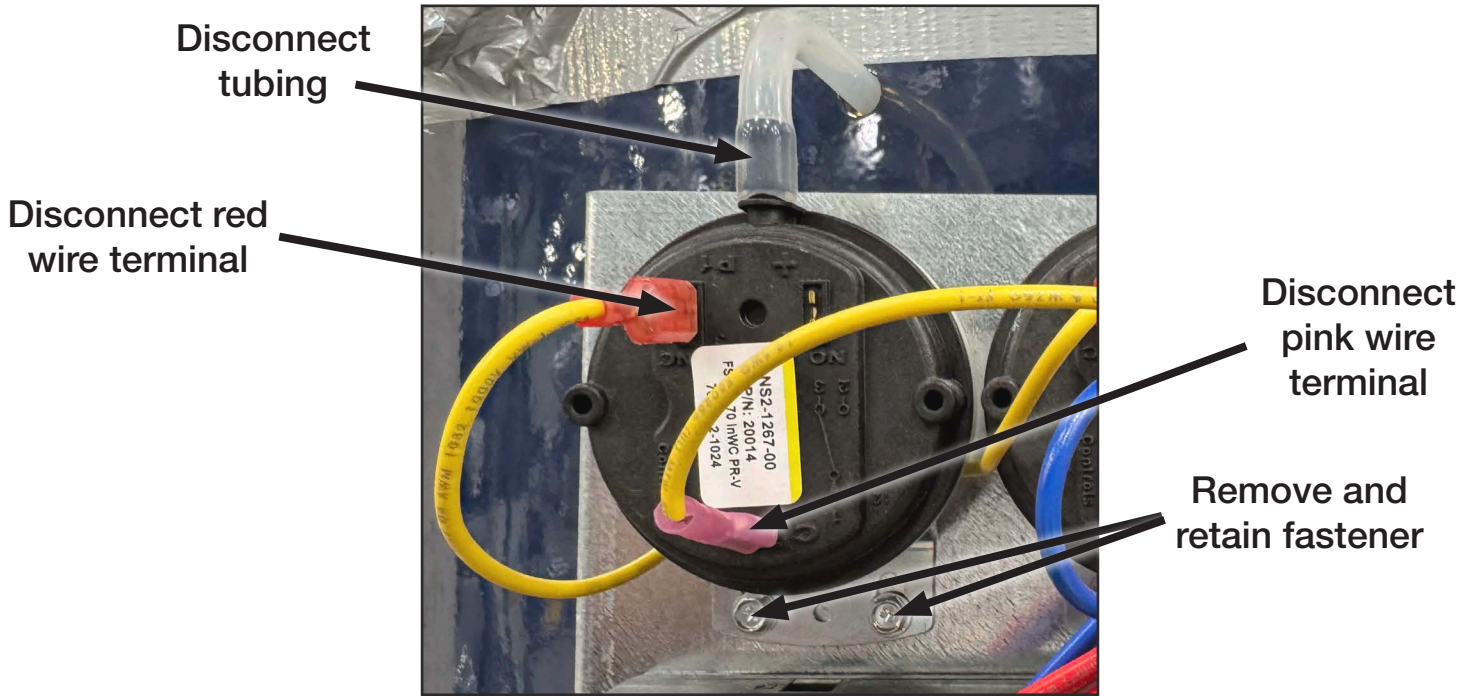

Fig. 50
2. Disconnect tubing from top of intake/exhaust pressure switch (Fig. 50).